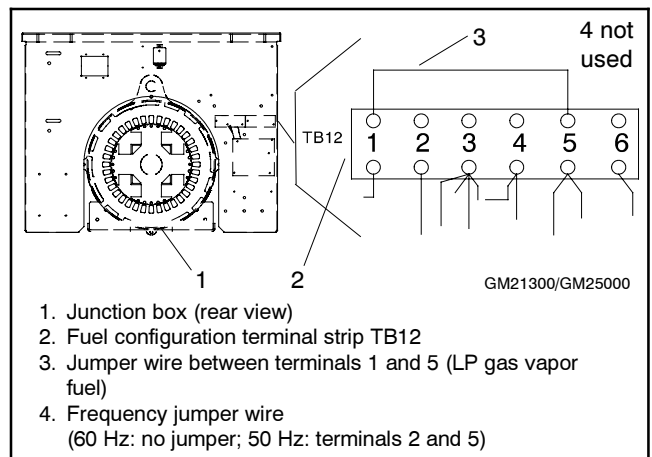

Figure 9-39 Fuel Configuration Jumper Wire (LP Fuel, 60 Hz, 80-125 kW Models)
- Remove the right side panel of the junction box and locate the fuel configuration terminal strip TB12. See Figure 9-39.
- Attach a user supplied 18-ga. jumper wire between terminals 1 and 5 (LP gas vapor fuel). See Figure 9-39 for frequency jumper wire requirements.